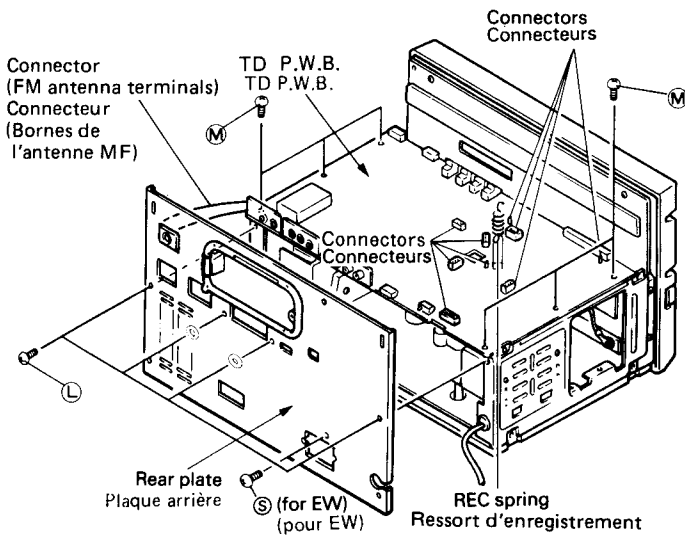

Fig. 4
- 2. Removing the Rear Plate (Fig. 4)**
- 3. Removing the TD P.W.B. (Fig. 4)**
- 2. Retrait de la plaque arrière (Fig. 4)**
**3. Retrait de la P.C.I. TD (Fig. 4)**